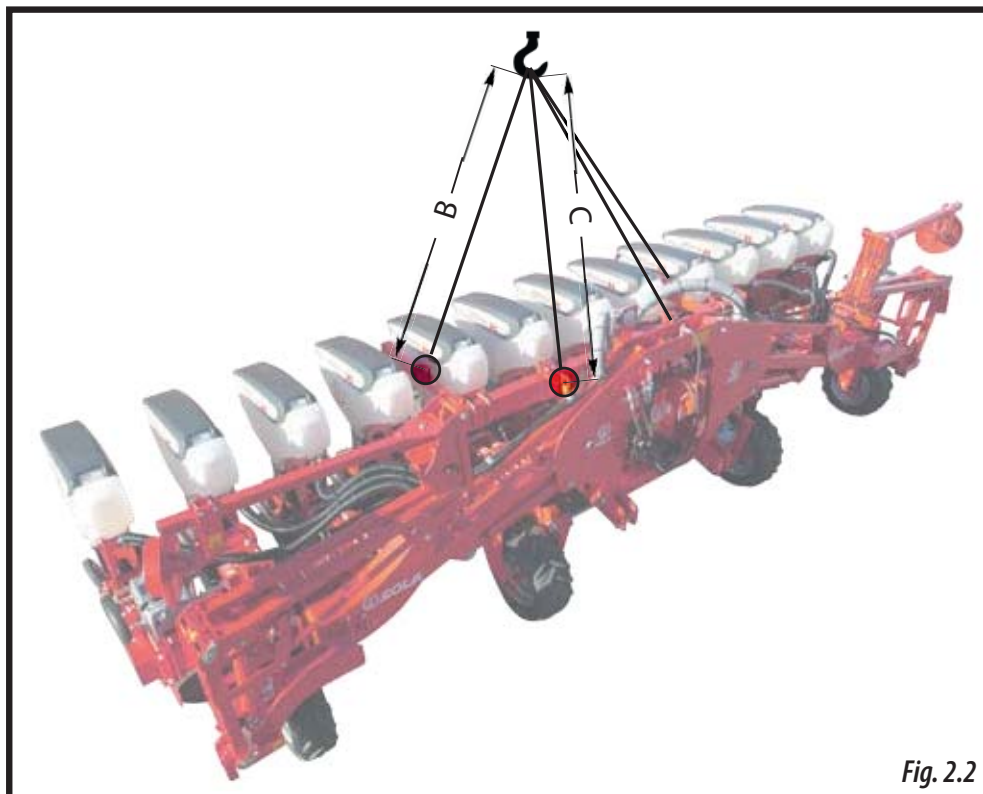

Fig. 2.2
- In **FOLDING** versions of the machine (Fig. 2.2), the operations of **LOADING** and **UNLOADING** must be performed using 4 points:
- 2 **MAIN** coupling points, placed on the three-point FRAME (B, Fig. 2.2).
- 2 **SECONDARY** coupling points, placed on the supporting legs (C, Fig. 2.2).
**WARNING:** PLEASE RESPECT THE DISTANCES **B** AND **C** (2 METRES) IN ORDER TO PREVENT DAMAGES TO THE MACHINE DURING THE RAISING OPERATION (Fig. 2.2).